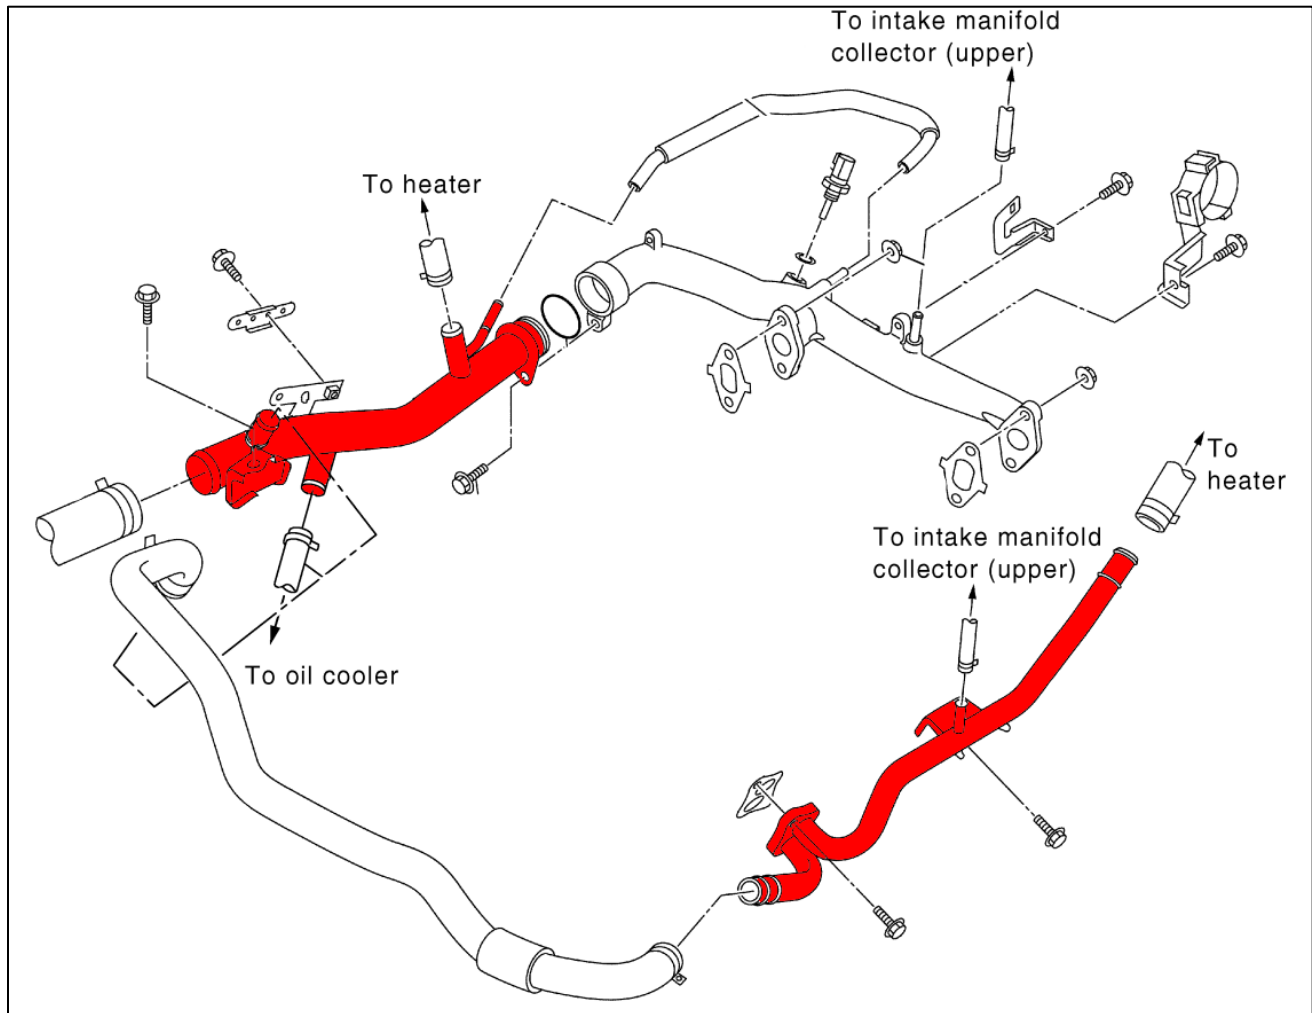

Figure 5
13. Remove the Water/Coolant Pipes on each side of the engine. *Figure 5.*